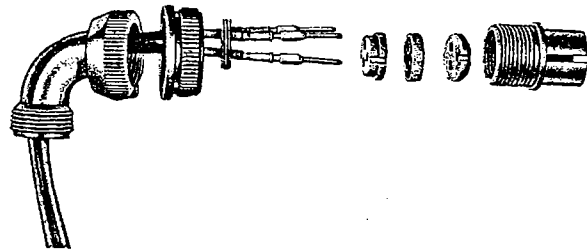

Figure 18
a. When assembling the HT or BT-MA series connectors slide the elbow or adapter, retaining ring, and connector coupling nut on the wires. Make certain these parts are turned to face the connector shell as shown in figure 18.